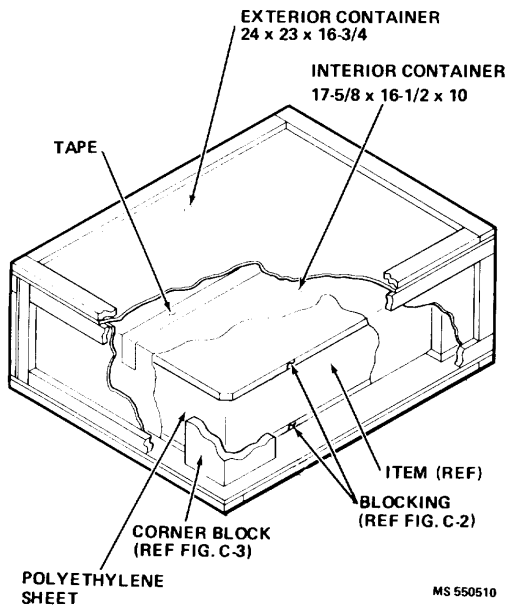

Figure C-4. Mount Drive Control Box Packaging
- (6) Enclose in plywood box (24 x 23 x 16-3/4 inches). Figure C-4 shows a cutaway view of the final package.